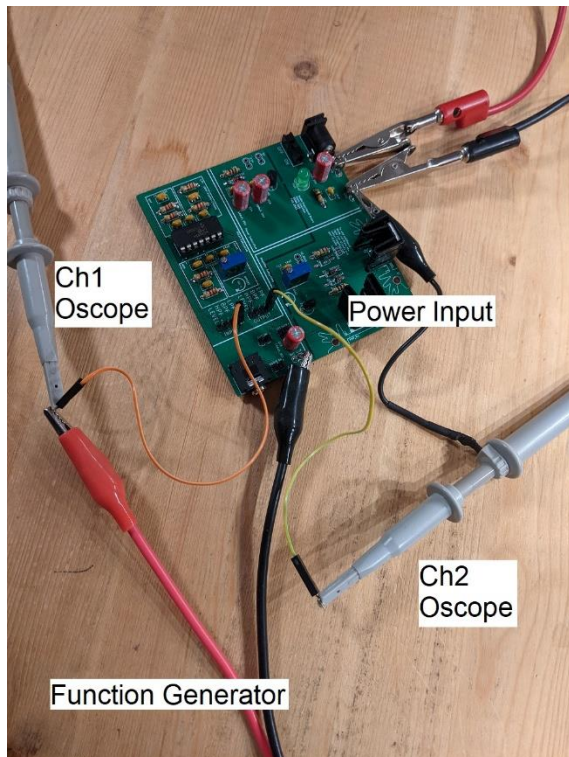

Figure 9: The setup to apply a signal to the LPF and measure the response on the oscilloscope.
- Verify that everything is setup correctly by comparing your setup to Figure 9,